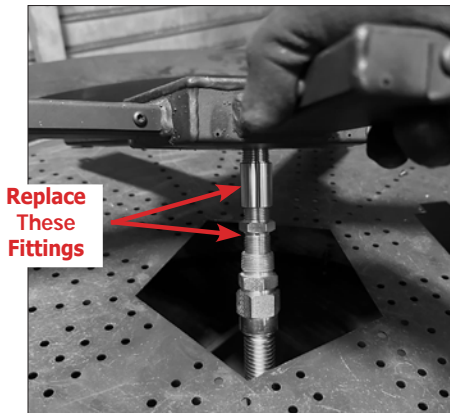

Figure 22: Burner Fittings to Replace
2. Replace the burner orifice and mixing tube fittings with the LP versions as shown in Figure 22. Picture indicates the direction of gas flow.
3. Remove the NG pilot orifice (shown in Figure 22) from the flexible gas line and the pilot assembly, and replace it with the LP pilot orifice.